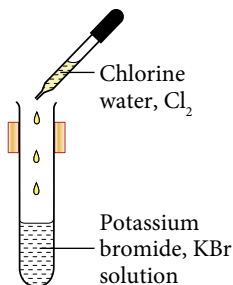

Figure 1.10
- Figure 1.10 shows chlorine water, Cl₂ is added into a test tube containing potassium bromide, KBr. The observations of and inferences from the reaction are as follows.